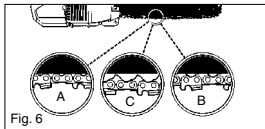

Fig. 6
CAUTION: If saw chain is **TOO LOOSE** or **TOO TIGHT**, the sprocket, bar, chain, and crankshaft bearings will wear more rapidly. Study Fig. 6 for information concerning correct cold tension (A), correct warm tension (B), and as a guide for when saw chain needs adjustment (C).